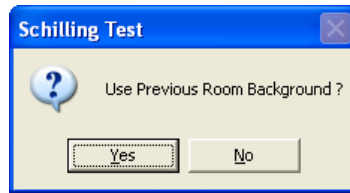
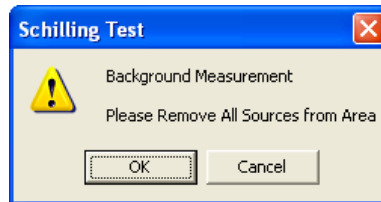

Figure 10-14
Figure 10-15
4. First, the screen prompts you to measure background counts as shown in Figure 10-15.
**Note:** If the background has recently been counted, then the screen shown in Figure 10-14 will appear. To skip counting the background again and proceed to step 5, click the **Yes** button or press the *Y* key. To re-measure the background, click the **No** button or press the *N* key. The screen shown in Figure 10-15 will appear.